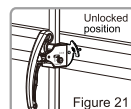

Figure 21
4. Take off the Stainless bar ring from the Plastic hook and retract the screen slowly into the housing. After the housing is rotated to parallel with Aluminum bar, then adjust the Adjustable uphold bar to make the Plastic hook on its top to lock onto a hole on the housing. At this time you can fully retract the Metal tripod stand. (Remarks: Please assure the Top bar is locked onto the Aluminum stand. Figure 21)